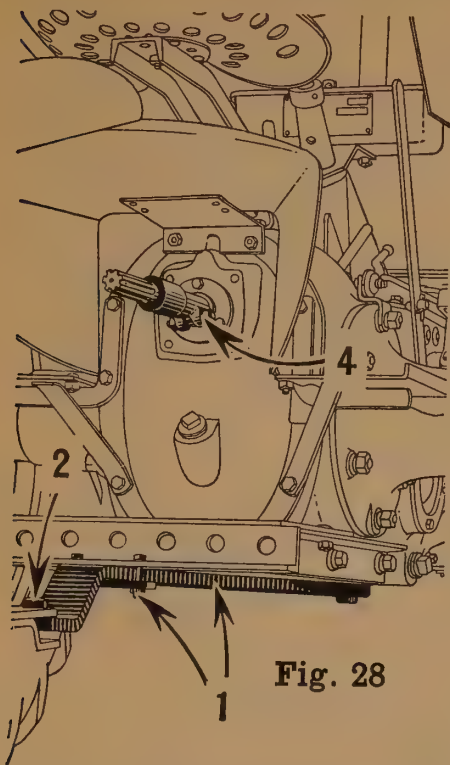

Fig. 28
1. (Fig. 28.) Remove swinging drawbar from tractor and replace with new one furnished. Clamp drawbar in center of drawbar guide.
2. (Fig. 28.) Connect Binder to tractor drawbar.
4. (Fig. 28.) **Case "RC" Tractors without power lift only:** Slide take-off shaft extension onto take-off shaft on tractor. Secure with clamp bolt.